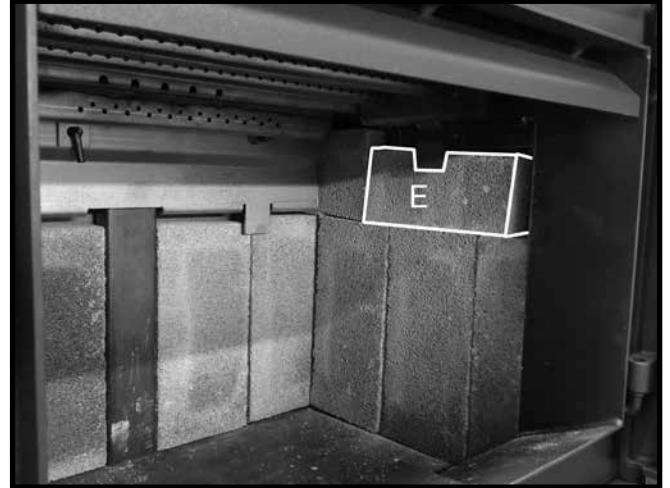

Figure 17: Final side wall firebrick in position.
- Slide an "E" firebrick under the side wall brick rail tab and rest on top of the three previously placed side wall firebricks (Figure 17). Repeat steps 4-7 on the other side.